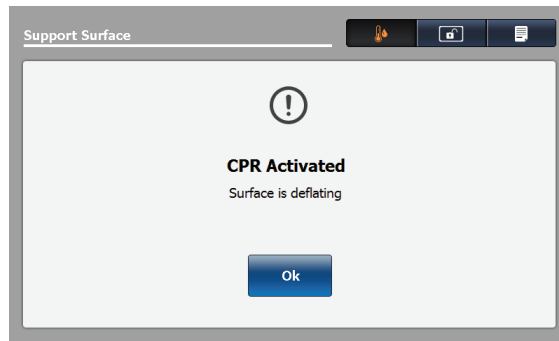

Figure 64 – CPR Activated — Surface is deflating
2. After you activate the CPR straps or CPR release pedal, the CPR Activated screen displays (Figure 64).